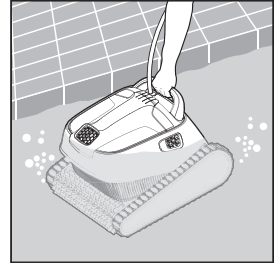

FIGURE 15
3. Using the handle, lift the cleaner out of the pool. See **Figure 15**.